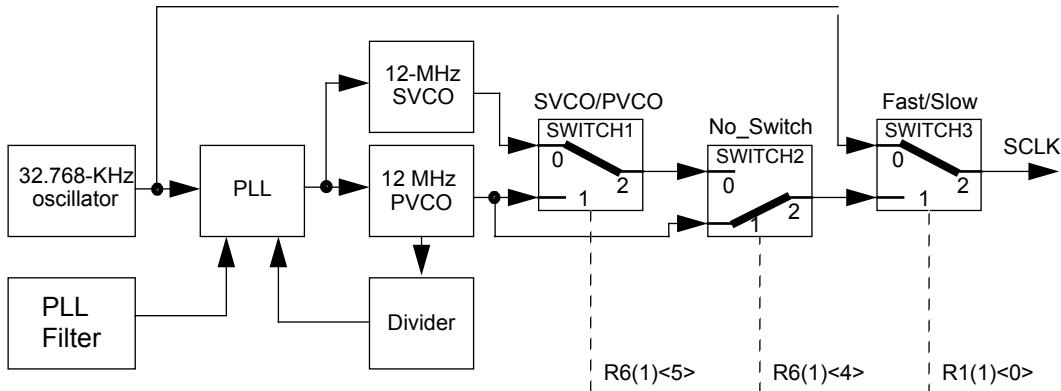

Figure 8 Clock Switching Block Diagram
The clock switch control register R6(1) defines the source of the SCLK for the Z90376 core. The block diagram in Figure 8 represents the clock switch circuit.